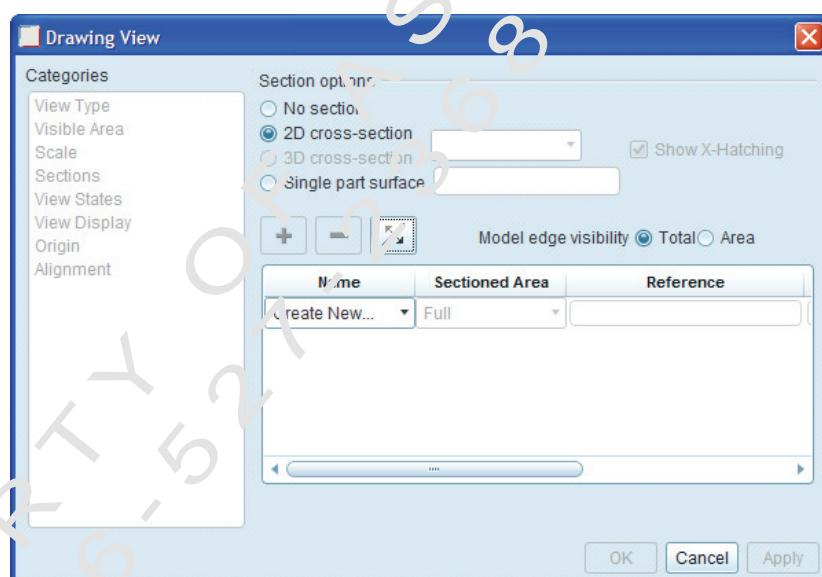

Figure 1–65
9. Click  to add a section to the view. The Drawing View dialog box appears as shown in Figure 1–65.